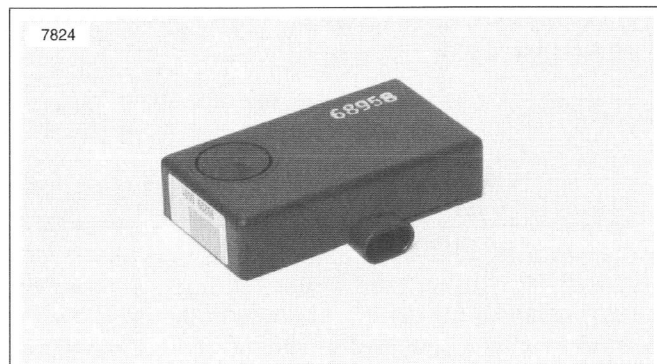

Figure 39. Siren
- See Figure 39. If the siren is armed and the internal siren battery is dead, shorted, disconnected, or has been charging for a period longer than 24 hours, the siren will respond with three “chirps” on arming instead of two.